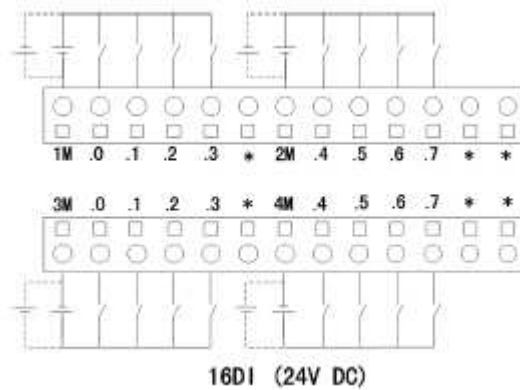

Figure 3-1-5 LM3212 Terminal Definition and Wiring
- 1M, 2M, 3M and 4M terminals of DI channel in Figure 3-1-5 are external DI common ends, user can choose to connect M terminal to the positive end and negative end of 24VDC sensor power in order to adapt to source/sink type DI.